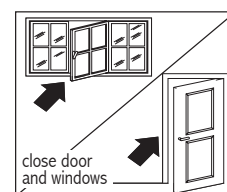

Fig. 11.
- Close the windows and doors in the room to be air conditioned (fig. 11). When installing the air conditioner semi-permanently, you should leave a door slightly open (as little as 1 cm) to guarantee correct ventilation.